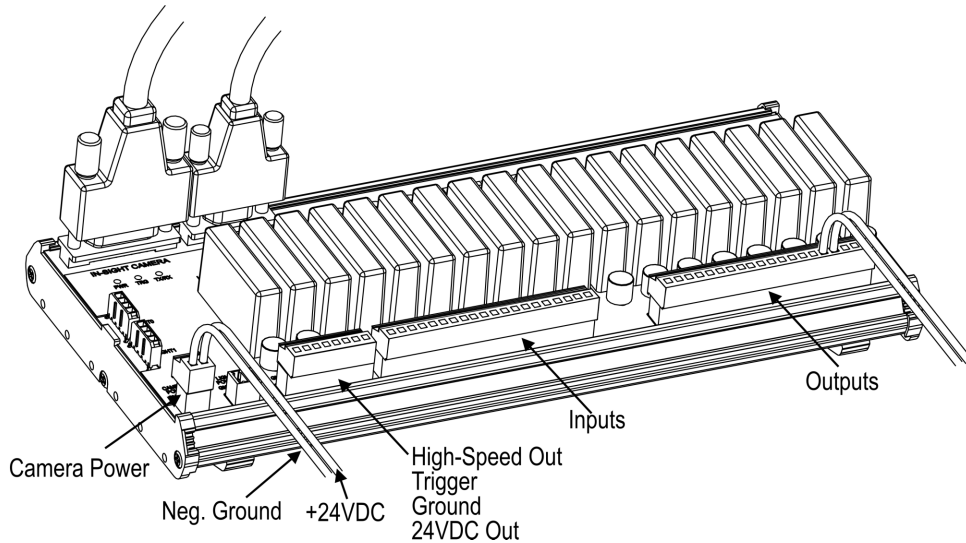

Figure 3-9: Connecting +24VDC and Ground Wires
6. Plug wire leads from a 24VDC supply for the +24V power and ground into the 2 pin terminal plug labeled "Camera Power" on the Expansion Module (Figure 3-9).